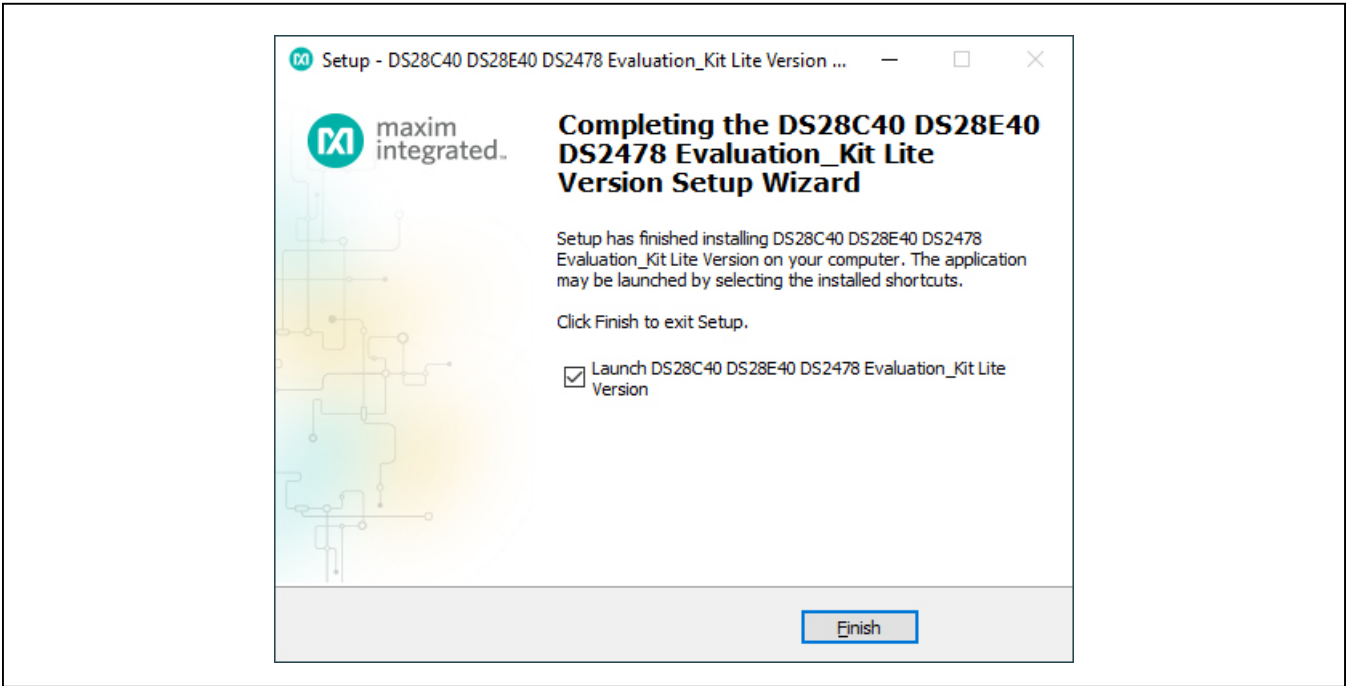

Figure 5. Run Software After Installation
5) Wait for the Installation to complete and launch program if desired after completion, as shown in Figure 5.